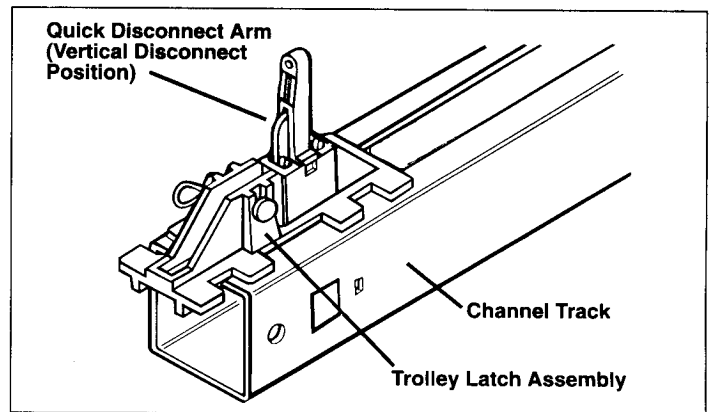

Figure 1
Step 2: Remove trolley latch assembly from parts bag in operator carton. Raise the Quick Disconnect Arm to the vertical position (see Figure 1). Slide over the channel, flanges in the proper orientation as shown in Figure 1. When installing the trolley latch in the channel, be sure the arrow points toward the door end of the channel.